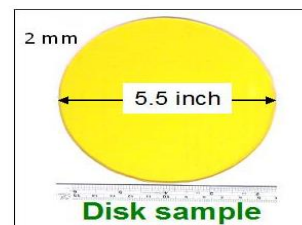

Figure 3
**(b) Photorefractive optics and 3D display:** In the past few years, our lab has led an interdisciplinary R&D team including the crystal growth Lab in Bulgarian Academy of Science and the Liquid Crystal Lab of NCTU, and achieved several major technical milestones toward our ultimate goal of submicro-pixel resolution for holographic 3D display, including ultrafast sillenite-type photorefractive crystal and new hybrid organic/inorganic device (Figure 3).